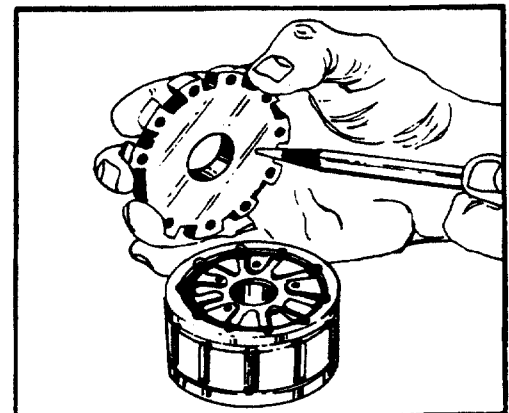

FIGURE 24.
- remove commutator cover** 28. Lift the commutator cover (20) from the metering package.
- inspect commutator cover** 29. Inspect the ground surfaces of the commutator cover (20). You should notice a "normal" polished pattern due to the rotation of the commutator (22). If the cover has nicks, burrs, or scoring, it must be replaced. See figure 24.